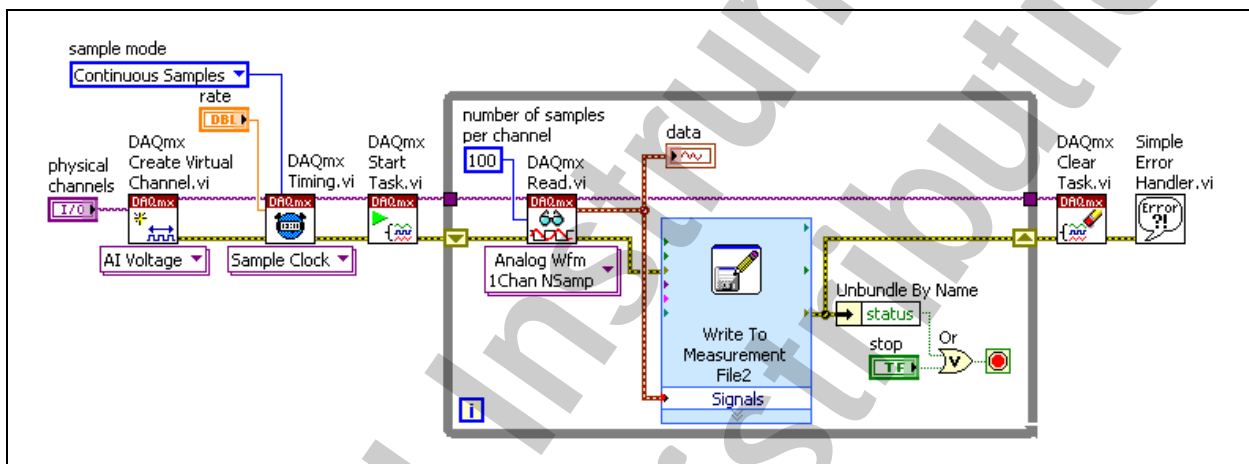

Figure 3-12. Continuous Buffered Acquisition with Logging VI Block Diagram
- ☐ Modify the block diagram as shown in Figure 3-12 using the following items:
- ☐ Wire the data wire to the Signals input, as shown in Figure 3-12.